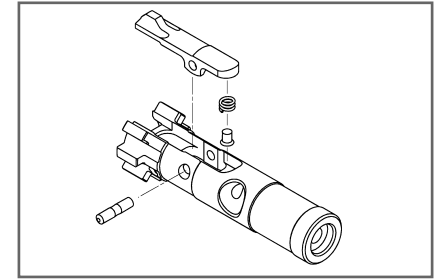

Fig. 60: Extractor spring and buffer
4. The Extractor Spring with the buffer inserted can be inserted into the hole of the extractor and while holding the extractor upside down, attach the bolt and insert the Extractor pin into the hole (Fig. 60, 41 and 40). The pin must not protrude from either side and pressure might have to be applied to compress the Extractor while completing this.